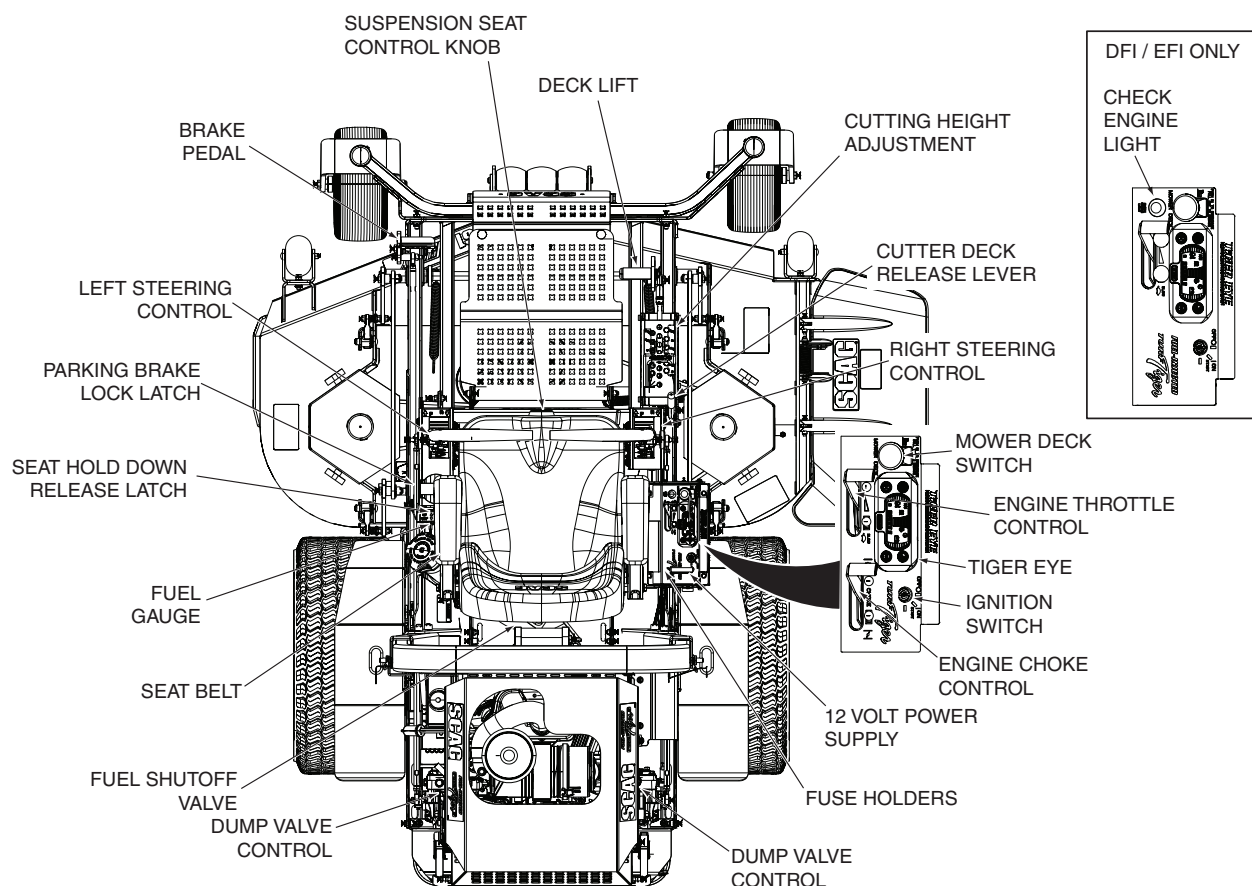
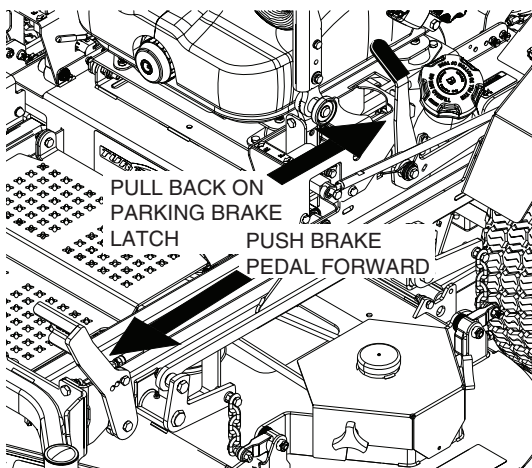
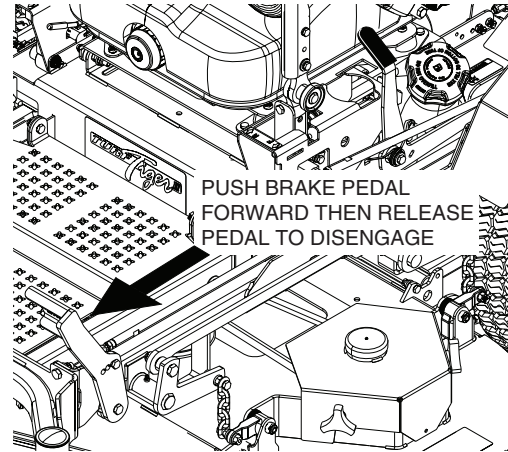
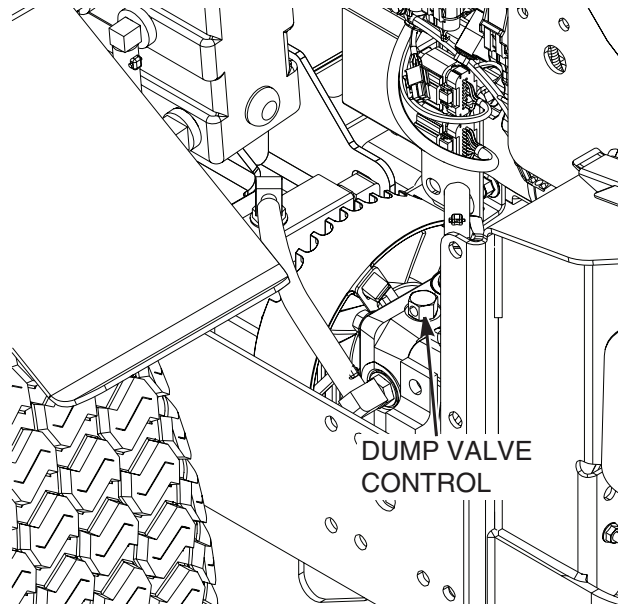

Figure 4-2. Controls and Instruments
Figure 4-3. Engaging Parking Brake
Figure 4-4. Releasing the Parking Brake
Figure 4-5. Dump Valve Control
12. **Fuse Holders (Figure 4-2).** Two 20-amp fuses and one 5-amp fuse protect the mower's electrical system. To replace fuses, pull fuse out of the socket and install a new fuse.
1. **Ignition Switch (Figure 4-2).** The ignition switch is used to start the engine and has three positions; OFF, ON, and START.
2. **Mower Deck Switch (Figure 4-2).** Used to engage and disengage the mower drive system. Pulling up on the switch will engage the deck drive. Pushing down on the switch will disengage the deck drive.
3. **Engine Choke Control, Carbured Engine Only (Figure 4-2).** Used to start a cold engine.
4. **Engine Throttle Control (Figure 4-2).** Used to control the engine speed. Pushing the lever forward increases engine speed. Pulling the lever back decreases engine speed. Full back position is the IDLE position. Full forward is the cutting position.
5. **Left Steering Control (Figure 4-2).** Used to control the mower's left wheel when traveling forward or reverse.
6. **Right Steering Control (Figure 4-2).** Used to control the mower's right wheel when traveling forward or reverse.
7. **Brake Pedal (Figure 4-2).** Depressing the brake pedal applies the brake.
8. **Parking Brake Lock Latch (Figure 4-2).** Used to lock the parking brake in the engaged position. Fully depress the brake pedal and pull the parking brake lock latch back to lock the parking brake in the engaged position. See Figure 4-3. Fully depress the brake pedal forward to disengage the parking brake lock latch, then release the brake pedal to disengage the brake. See Figure 4-4.
9. **Fuel Tank Gauge, Gasoline & Diesel Models Only (Figure 4-2).** Indicates the amount of fuel in the fuel tank.
10. **Dump Valve Control Levers (Figure 4-2).** Located on the left and right side of the machine, used to "free-wheel" the mower. Move the levers forward until they stop allows the unit to move under hydraulic power. Move the levers back and towards the engine allows the mower to be moved by hand (free-wheeling). See Figure 4-5.
11. **Deck Lift Foot Lever (Figure 4-2).** Used to raise and lower the cutter deck. Push full forward to lock in the transport position.
12. **Cutting Height Adjustment (Figure 4-2).** Used to set the cutter deck at the desired cutting height.
- 13. Deck Release Lever (Figure 4-2).** Used to lock the cutter deck in the transport position. Push the foot pedal forward and pull back on the release lever to release the cutter deck for normal mowing.
- 14. Seat Suspension Control Knob (Figure 4-2).** Used to select the optimum suspension rate based on the operator.
- 15. Seat Belt (Figure 4-2).** Used to secure the operator. Seat belt must be worn at all times when the ROPS is in the upright and locked position.
- 16. Seat Hold Down Release Latch (Figure 4-2).** Located behind the seat. Used to secure the seat in the operator's position. Release the latch to gain access under the seat.
- 17. Fuel Shutoff Valve Gasoline & Diesel Models (Figure 4-2).** Located under the seat on top of the fuel tank. Used to shut off fuel supply to the engine. Rotate the valve counter clockwise to supply fuel from the tank to the engine. Rotate the valve clockwise to shut off the fuel supply to the engine.
- 18. 12 Volt Power Supply (Figure 4-2).** Located on the side of the control panel. Fused 12 volt DC power supply used to power accessories rated at 5 amps or less.